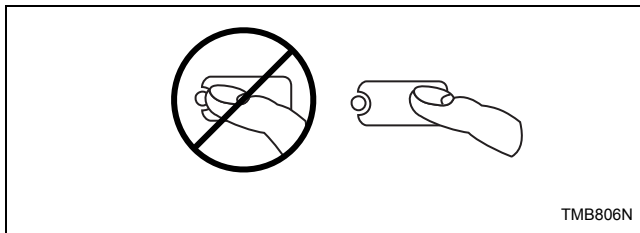

Figure 28
**NOTE: Do not press directly on lights or the center of pad. For proper selection, press on pad slightly to the right of center. Refer to Figure 28.**